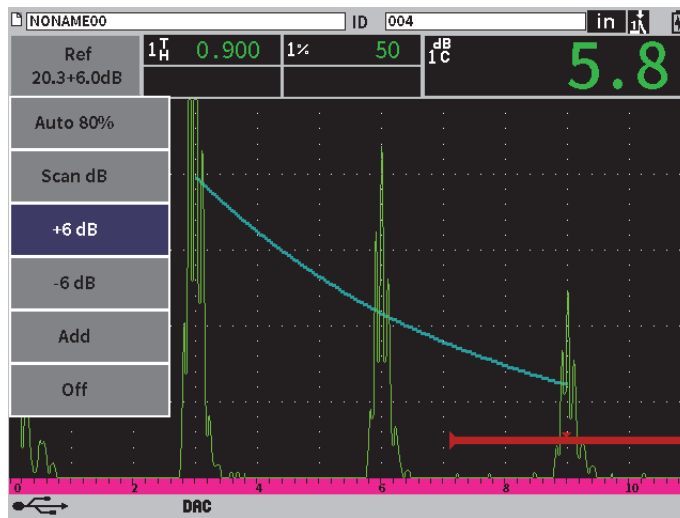

Figure 11-11 Standard DAC with 6 dB scanning gain
2. Adjust the gain in either coarse or fine increments, or use the **+6 dB** or **-6 dB** buttons to increase or decrease the scanning gain (see Figure 11-11 on page 185).